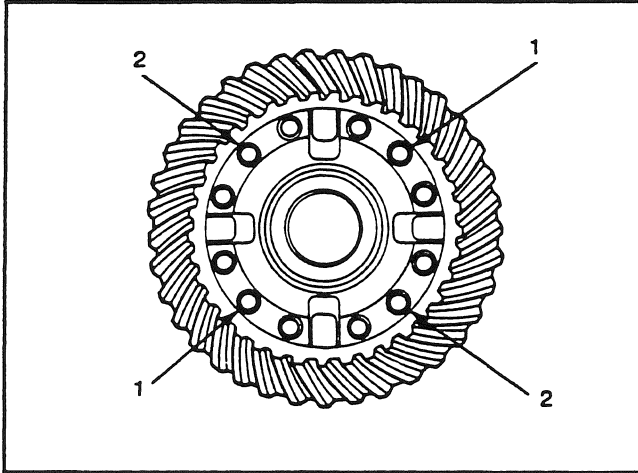

Fig. 58
9. Install four bolts into the case halves. The distance between the bolts **must** be equal. Tighten the bolts to the specified torque in a diagonal pattern (see Fig. 58). Install the remaining bolts. Tighten the bolts to the specified torque.